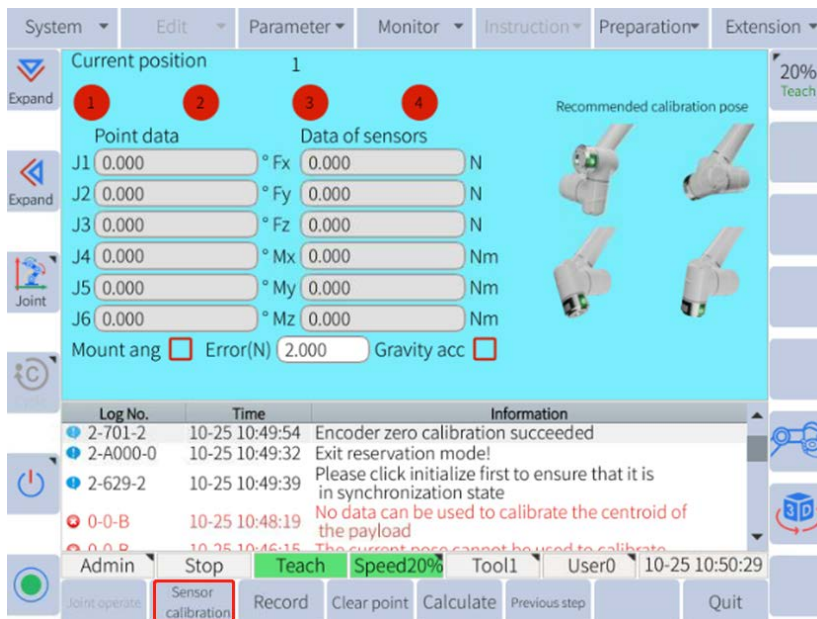

Figure 6-32: Calibration interface
- c. Press the servo button and click **Sensor calibration**. When holding the servo, the robot will start to move. Don't release the servo until "Robot has reached the target point" appears in the display, as shown in **Figure 6-32**.